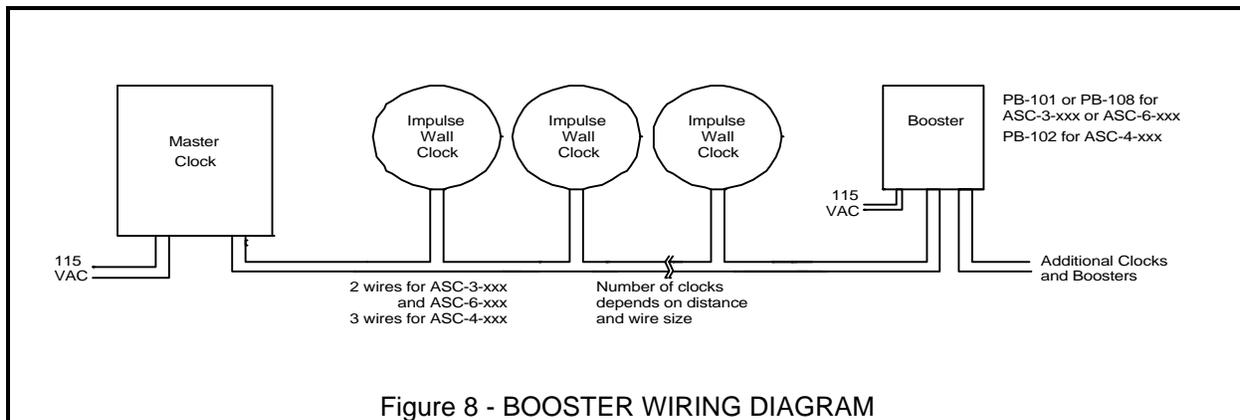

Figure 8 - BOOSTER WIRING DIAGRAM
1. Nationwide Power System. (See Figure 8, Page 11)